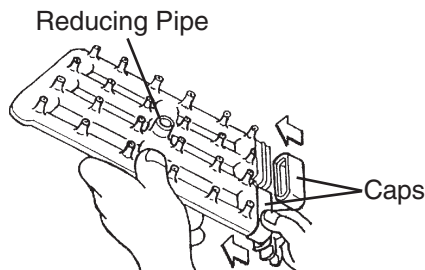

Fig. 34
11) Refit the 2 caps in their correct positions. Make sure the reducing pipe is in place in the center. See Fig. 34.